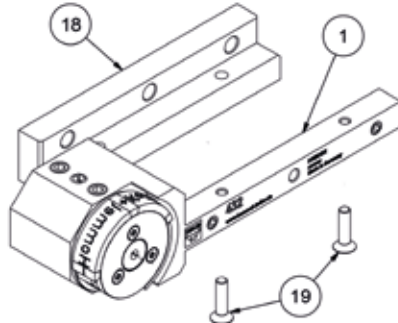

Figure 9: Shank adapter installation
With use of shank adapters, the tool can be used on all machines. For this purpose, fasten the supplied shank adapter (Fig. 9, pos. 18) with the accompanying countersunk screws (Fig. 9, pos. 19) on the base shank (Fig. 9, pos. 1).